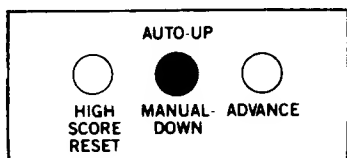

Figure 1. Diagnostic Button Switches
1. In Game-Over Mode, open the cashbox and depress the cashbox advance switch. The advance switch located on the diagnostic switch bracket can also be used. (See Figure 1.) The CRT should indicate all bookkeeping and evaluation totals. If so, go to step 3. If the CRT display comes up in the ROM test, perform step 2.